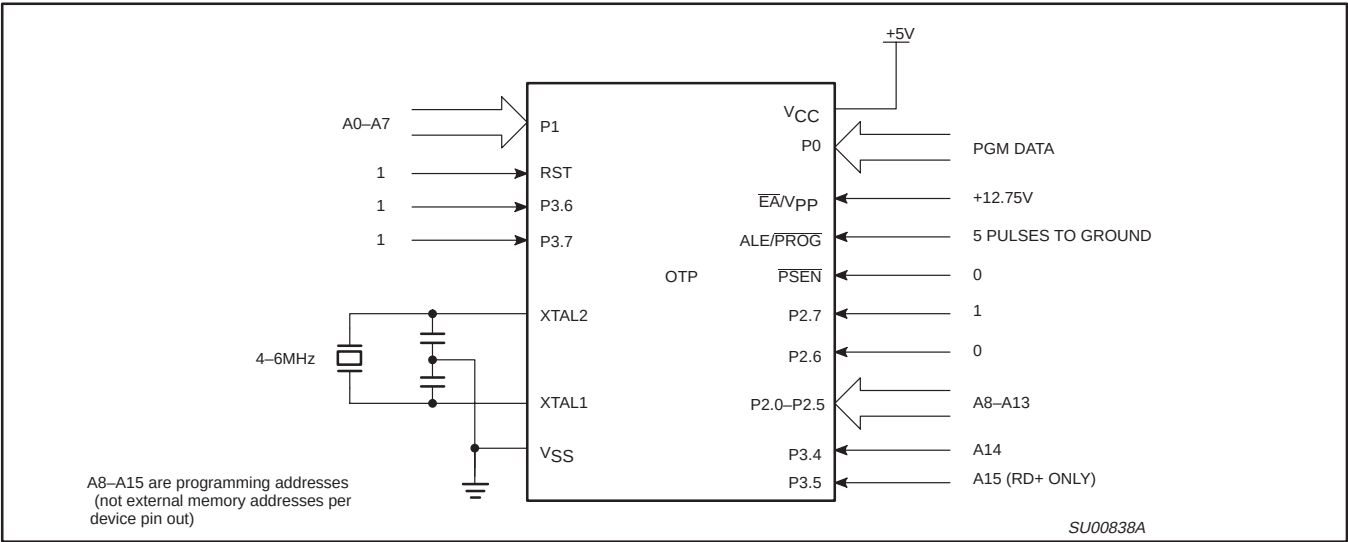

Figure 41. Programming Configuration
- * FOR PROGRAMMING CONFIGURATION SEE FIGURE 41.